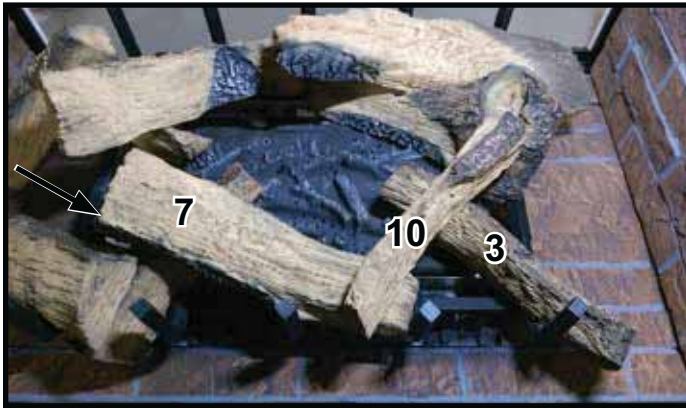

Figure 19. Log #10 from front.
**LOG NUMBER 10 (SRV2272-708):** Note that Logs #9 and #10 are identical to each other. Place Log #10 on the Log #7 and the groove on Log #3 – the thin end of the log should sit roughly between the second and third grate tines from the right as shown in Figure 19. The log must NOT block or sit directly over burner ports.